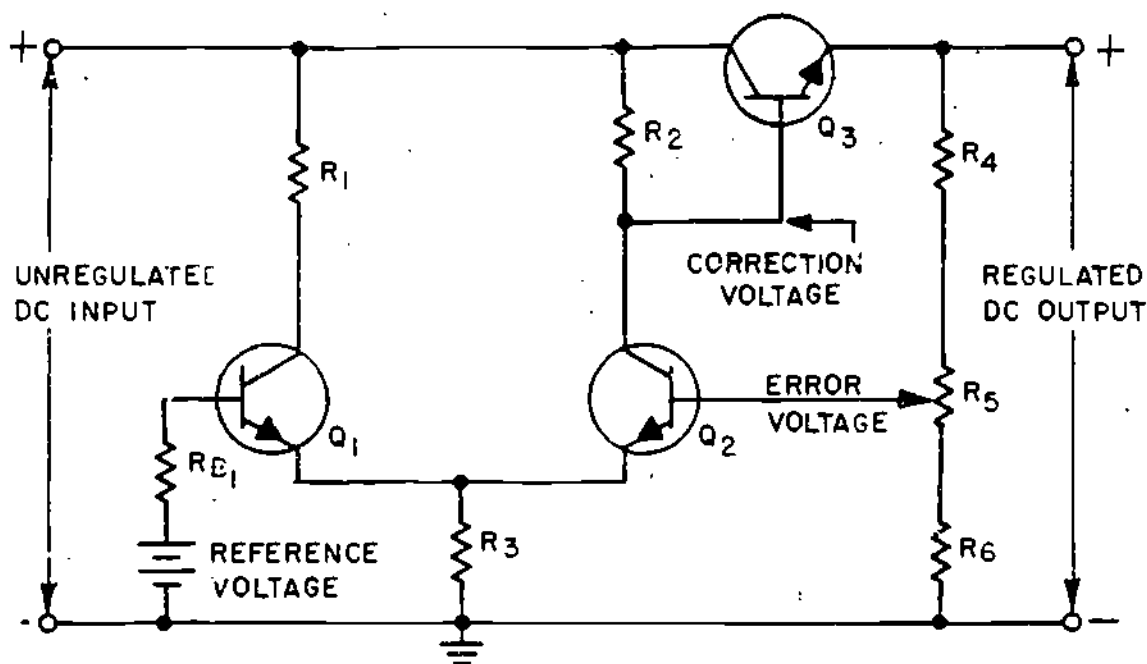

FIGURE 22
- (30.) You now understand how a shunt detector works. Refer to Figure 22 and notice that a series regulator, Q3, and two additional resistors have been added to the circuitry. These components complete a regulator circuit which uses the output of the voltage comparator.
R5 as a negative error signal. This error signal (less positive voltage) is felt at the base of Q2, causing an increase in the voltage on the collector of Q2 (collector out-of-phase with base). When this more positive voltage is applied to the base of Q3, its forward bias is increased, thereby decreasing the resistance of the Q3. This results in a smaller voltage drop across the transistor, and the output voltage of the regulator returns to normal. Remember that these changes take place in microseconds. In the event the output voltage increases, the error and correction signal polarities would be reversed. The purpose of the voltage comparator in this circuit (Figure 22) is to provide a high degree of sensitivity to signal change, thereby eliminating changes, or drift, in the output voltage.